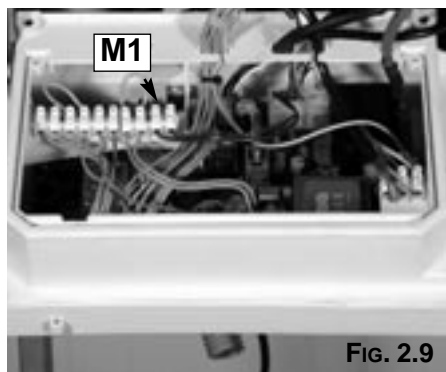

FIG. 2.9
2. Pierce the grommet 'M1' (FIG. 2.9) and pass any cables for the external controls through before connecting to the terminals.